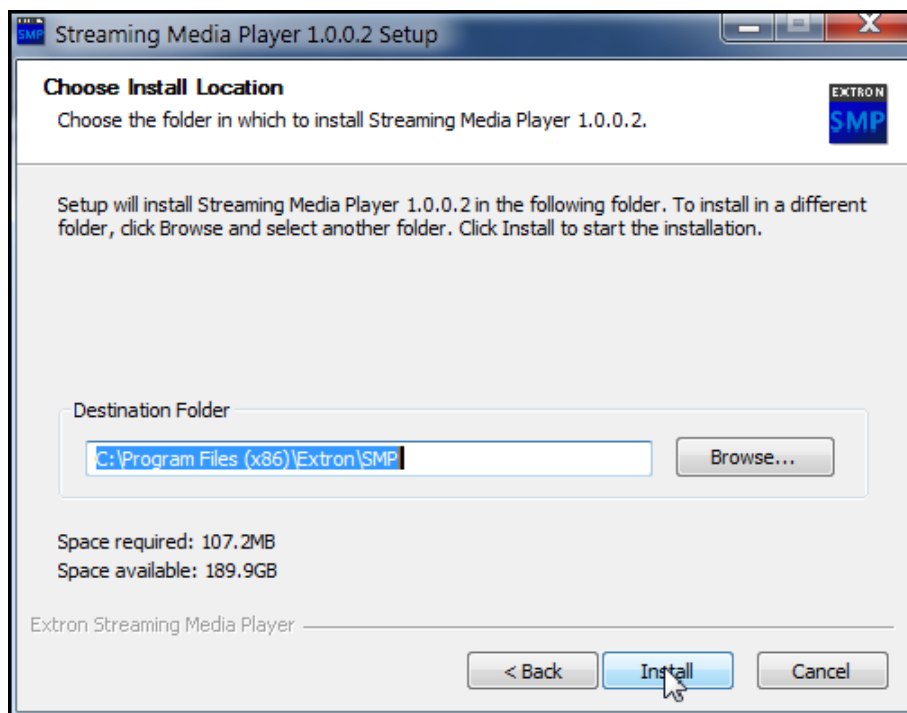

Figure 38. Change Install Location or Install
9. It is recommended to accept the default folder location, but a different location can be entered or selected using the **Browse** button. to a new location. Click **Install** when ready (see figure 38).